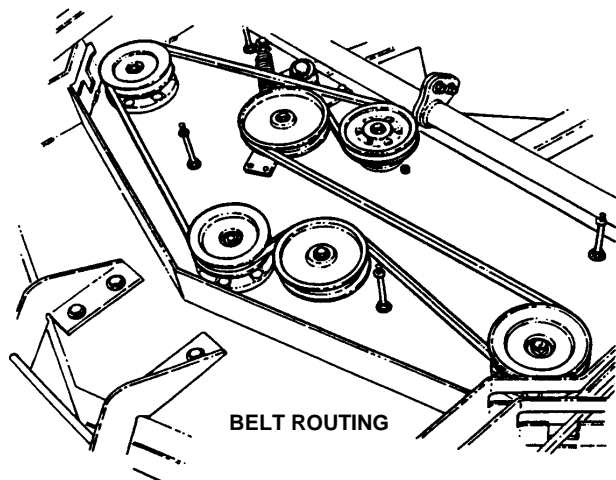

FIGURE 5.8
1. Route belt around blade pulleys and idler pulley in same the position as old belt was removed. It may be necessary to use a pry bar to pull idler pulley back to install belt. See Figure 5.8.